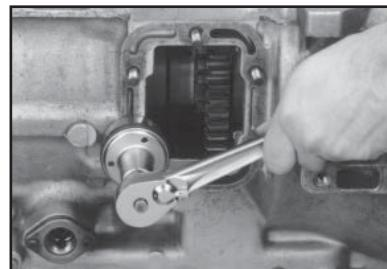

Figure 5
3. Install the proper studs in the PTO aperture pad using a stud driver or wrench (**Fig. 5**).